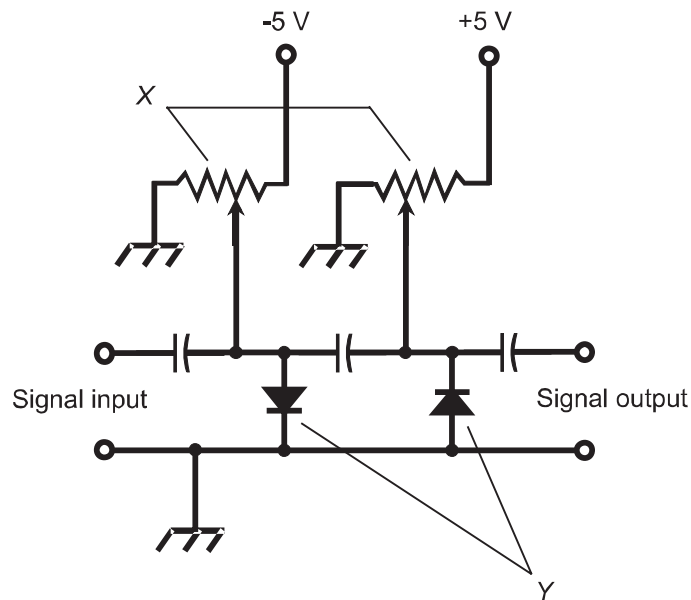

Fig. Exam-3. Illustration for Final Exam Questions 24 and 25.
24. In Fig. Exam-3, what are the potentiometers marked *X* meant to do?
25. In Fig. Exam-3, what are the diodes marked *Y* meant to do?